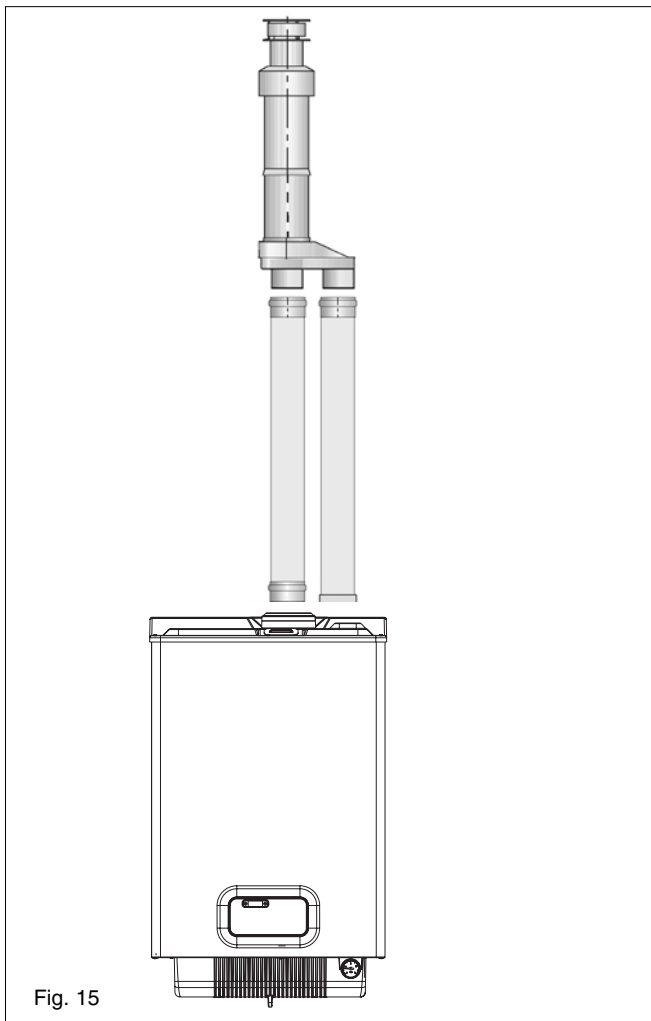

Fig. 15
4.5.3.3 VERTICAL TERMINATION (fig. 15)